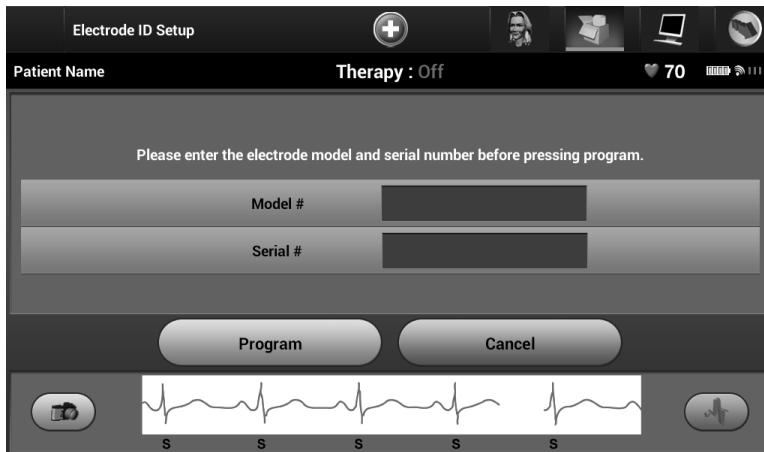

Figure 19: *Entering electrode information*
5. Enter the electrode model and serial number (Figure 19).